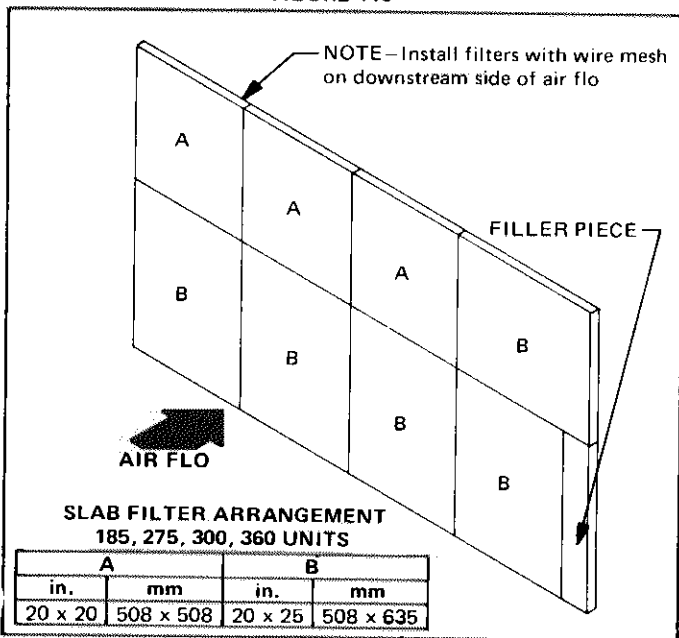
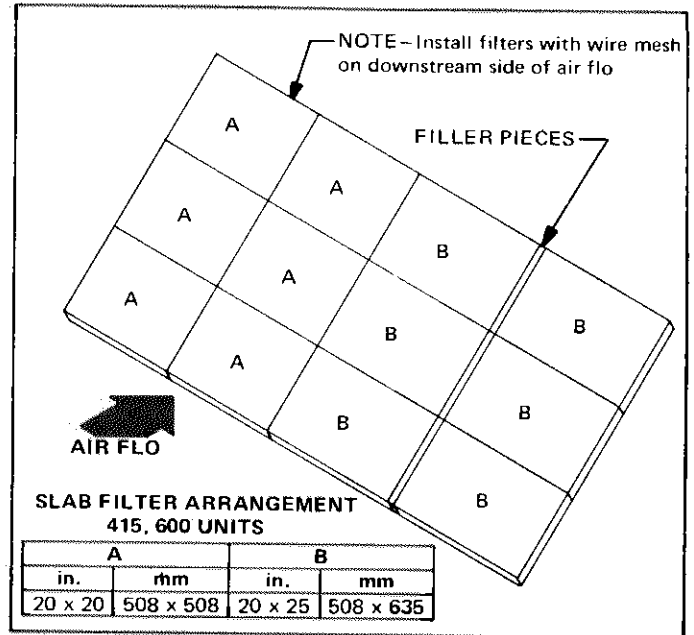

FIGURE 117
FIGURE 118
- 3 - Replace filters in unit noting arrangement and air flow direction. Refer to Figure 117(185, 275, 300, 360) or Figure 118(415, 600). Slide filters in on track, pulling chain and bracket in place.